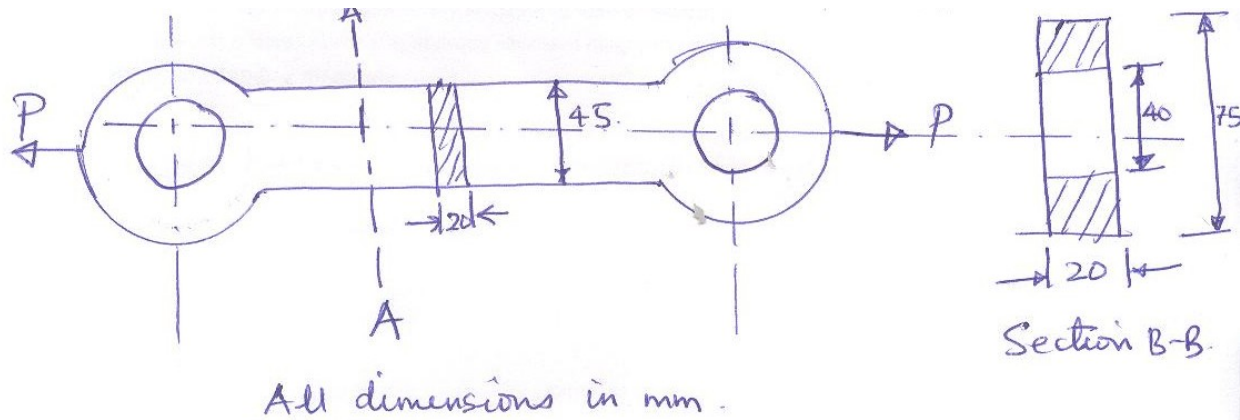

Fig Q5
5. a) A cast iron link shown in fig Q5 is required to transmit a steady tensile load of 55KN.